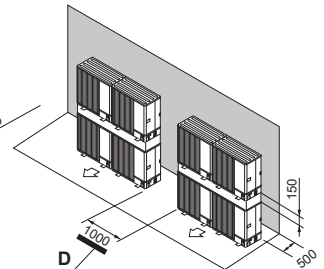

Fig. 2-18
- (7) Stacked unit arrangement (Fig. 2-18)
- D: Space (Fig. 2-18)